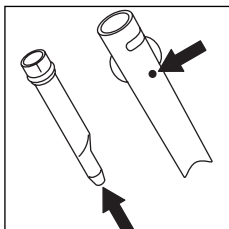

fig. 24
5. Make sure the two holes indicated by the arrows in fig. 24 are not blocked. If necessary, clean with a pin.